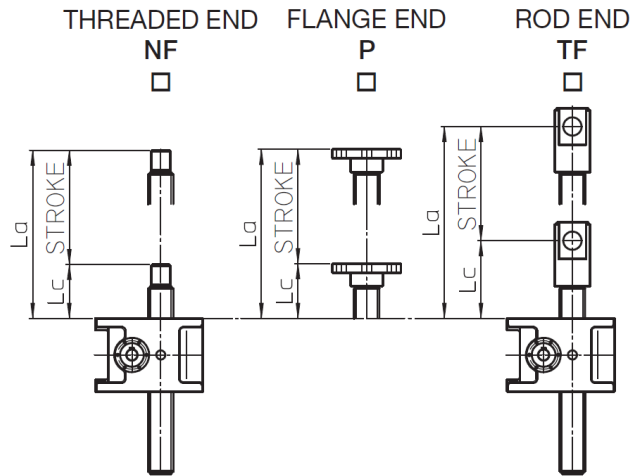

Figure 6.13 – “Lc” and “La” dimensions
- Check if the extreme dimensions of the screw jack “Lc” and “La” (see Fig. 6.13) are compatible with extreme positions of the plant component that has to be moved.